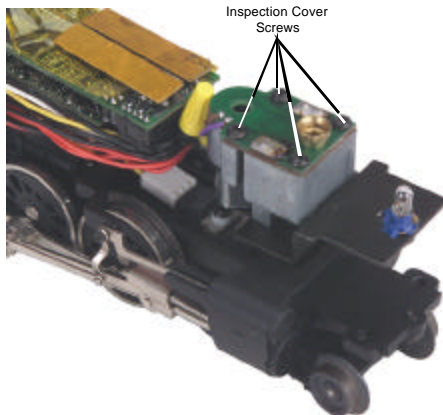

Figure 14
2. Use a phillips head screwdriver to remove the inspection cover screws as seen in Figure 14.